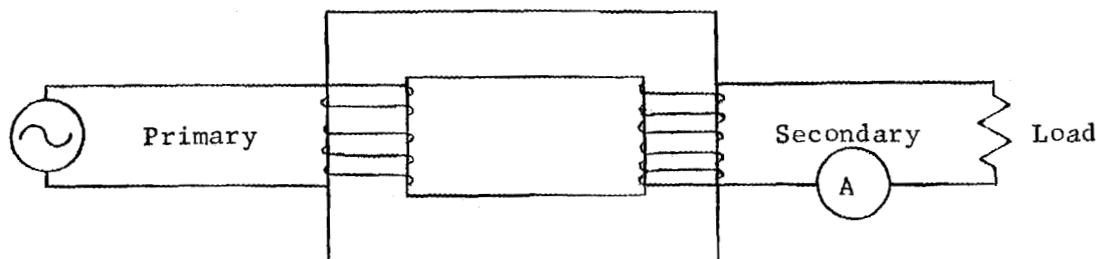

Fig. V-24. Transformer with Power Source
21. You will recall from Frames 156, 158, etc., of Section 1.1f, that a conductor placed in a changing magnetic field has a voltage induced in it. Since the primary of the transformer in Figure V-24 is passing ac, there will be a magnetic field in the core which varies from zero to a maximum in one direction, then back to zero, then to a maximum in the other direction, and back to zero again. This will repeat once with each cycle of the ac. This magnetic flux passes through the iron core in the secondary winding also and, because it is a continuously changing flux, it induces an alternating voltage in that winding.
28. Suppose that the transformer in Figure V-24 had a primary and secondary of one turn each. Because the iron core has very low reluctance (see Frame 142, Section 1.1f), very nearly all of the _____ induced in it by the current in the primary winding will pass through the secondary winding also. If one volt is required to produce the primary current, then it is reasonable to expect the resultant flux to induce _____ volt in the secondary winding also. Such is the case. heat